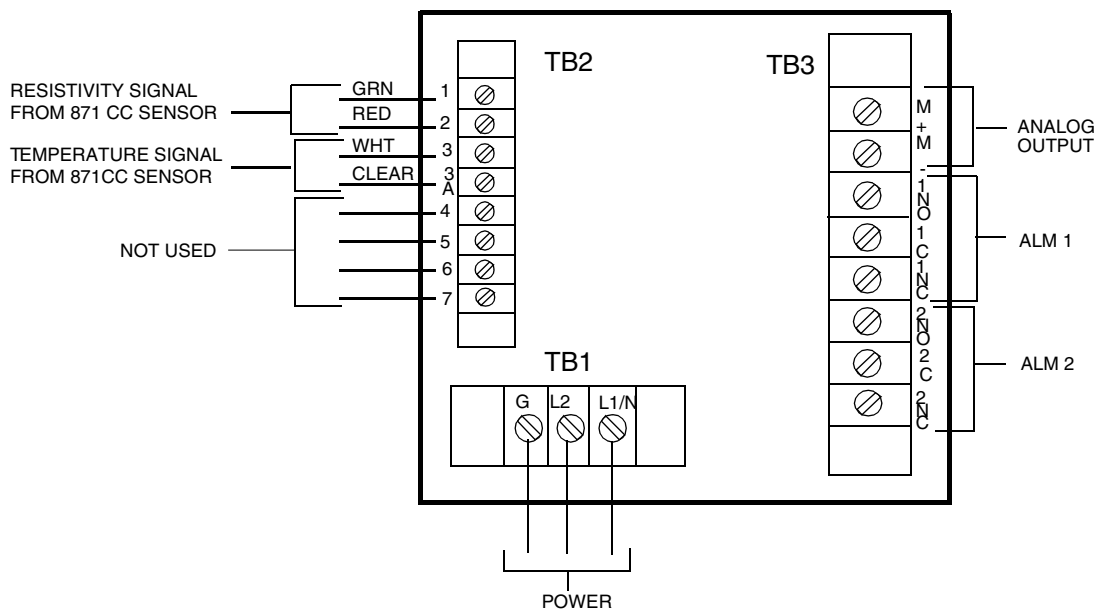

Figure 10. Rear Panel Wiring - Plastic Enclosure
2. Connect ALM 1 and ALM 2 alarm wires to TB3 as shown in Figure 10. Failsafe operation requires connections to be made between contacts NC and C. Also see “Wiring of Alarms” on page 21
3. Connect wires from external circuit for analog output to terminals TB3 (M+) and TB3 (M-). Refer to Figure 10.
5. Connect sensor wires to analyzer terminal block TB2 as shown in Figure 10.
6. Connect power wires to terminal block TB1 as shown in Figure 10.